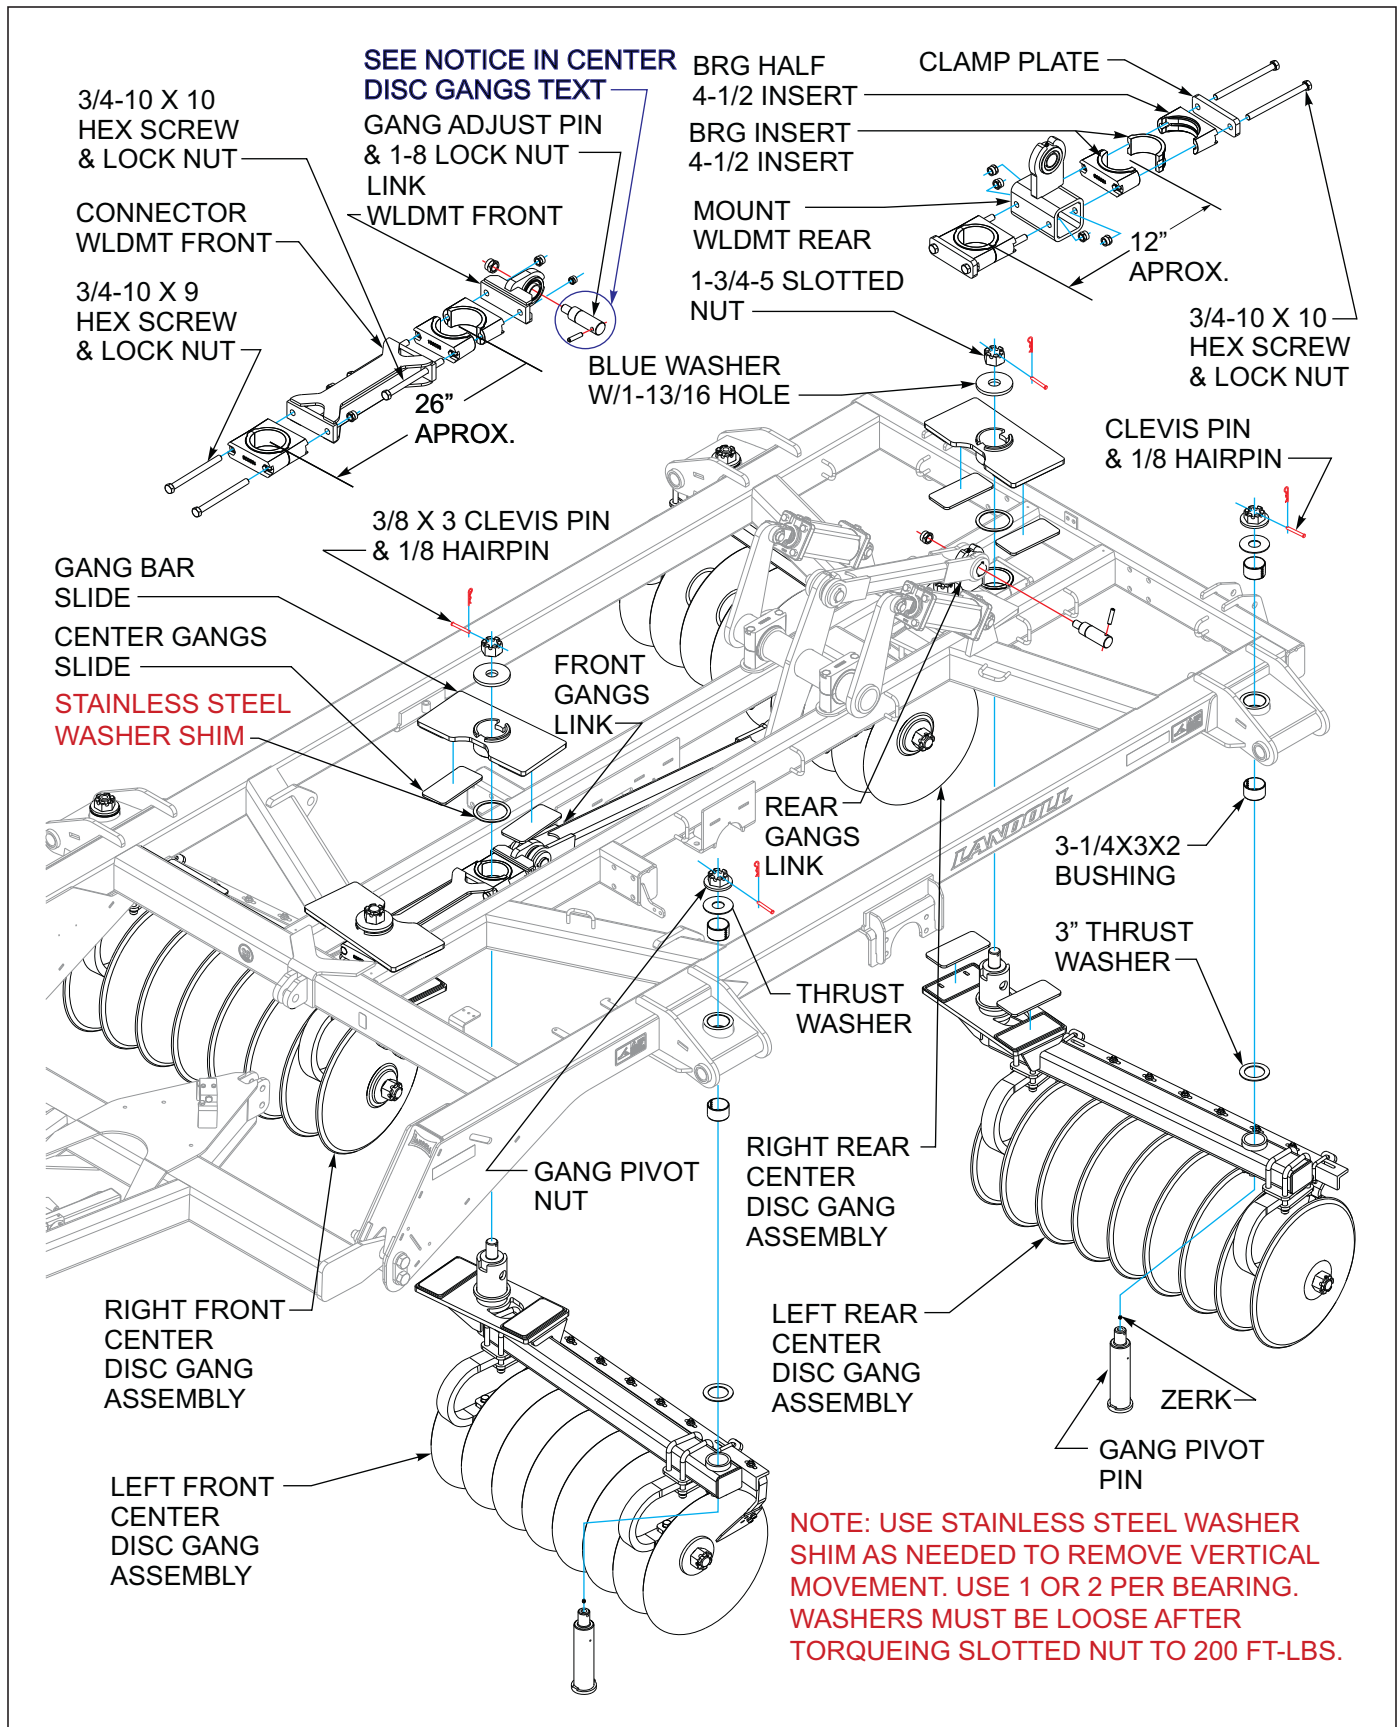

Figure 3-23: Center Disc Gang Installation
1. Install the left front disc gang assembly by moving disc gang assembly to proper frame position (**See Figures 3-23.**) Install gang pivot pin through gang pivot tube of gangbar, there are notches that will need to be aligned so the pin will not rotate in the gang bar. Install the 3" stainless steel thrust washer over the gang pivot pin, and pin will go on through the gang pivot mount welded to the outside of the center frame inside the hinges. Install the 1-13/16 diameter thrust stainless steel washer to the threaded end of the gang pivot pin along with the gang pivot nut. If the top bushing in the center frame pivot comes out a little while the pin is going through, just put the gang pivot nut on and hand tighten down to press it back into place. While gang pivot nut is still loose place both of the center frame slide pads onto the top side of the gang bar inside of the holder at the center of the machine. Next loosely install the gangbar slide and the center frame slide pads along with the blue washer with a 1-13/16" diameter hole and 1-3/4" slotted nut in the middle of the center frame to keep the end of the gang from falling.
4. The front gangs have a distance of 26" from center to center of the gangbar pivot shafts sticking up, move gangs to where this is close and the gangs are close to the front of the machine as shown in (**See Figures 3-23.**) Assemble the front bearing halves and insert the 3/4-10 x 9" bolts through the front connector. Assemble the rear bearing halves and insert the 3/4-10 x 10" bolts through the connector and into front link weldment that is already on the frame assembly. Tighten these four bolts alternating sides to tighten the cast bearings up evenly. With both bearings tight install 1 stainless steel washer or 2 on top of the bearing inserts and reinstall the gang bar slides, center frame slide pads, blue washers with 1-13/16" diameter hole and slotted nuts.